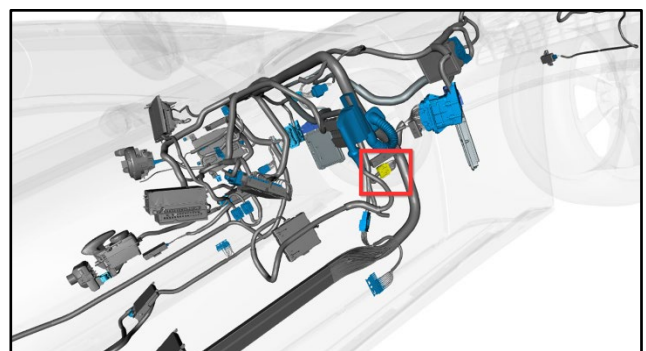

Figure 20
10. **FlexRay CAN Breakout** – This 22-way connection is on the passenger's side (refer to Figure 20).